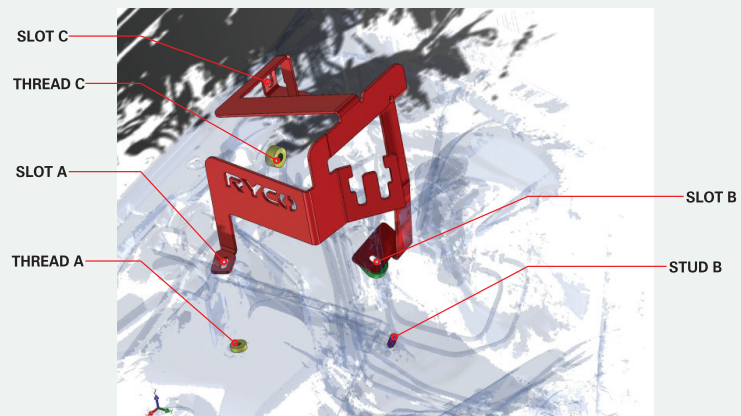

FIGURE 2B
- 6 Referring to FIG. 2B, we recommend first engaging the bracket Slot B on to engine Stud B under the brake pipes. Then proceed to line up Slot A with Thread A behind the air box. Finally, line up Slot C to be concentric with Thread C behind the ABS Module.